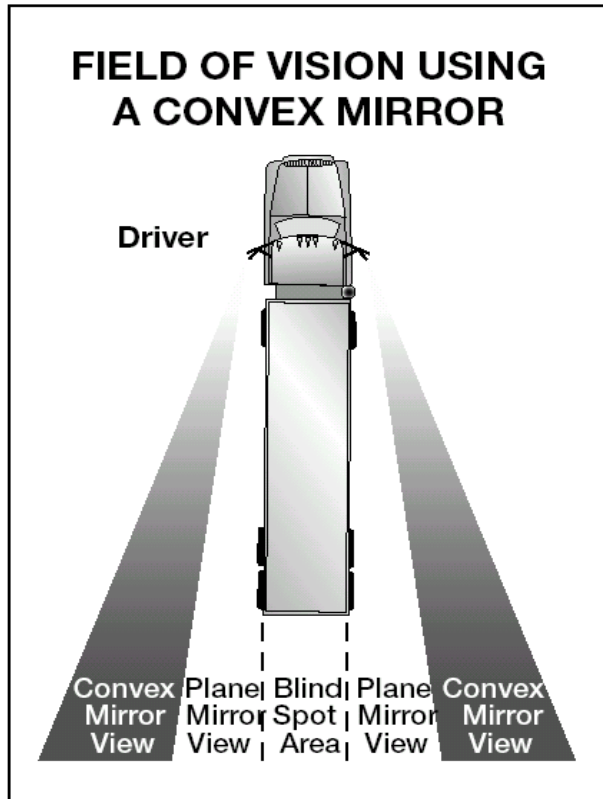

Figure 2.7
- Many large vehicles have curved (convex, "fisheye," "spot," "bug eye") mirrors that show a wider area than flat mirrors. This is often helpful. But everything appears smaller in a convex mirror than it would if you were looking at it directly. Things also seem farther away than they really are. It's important to realize this and to allow for it. Figure 2.7 shows the field of vision using a convex mirror.